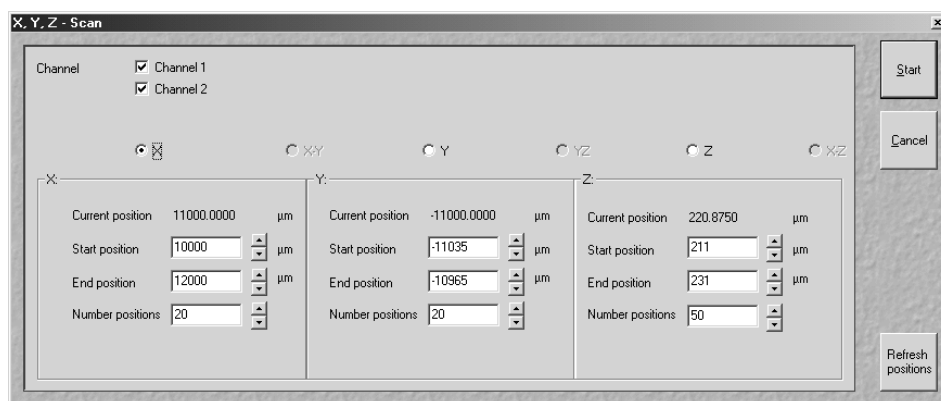

Fig. 3-57 X,Y,Z-Scan operating window
- The **X,Y,Z-Scan** operating window appears on the screen (Fig. 3-57).